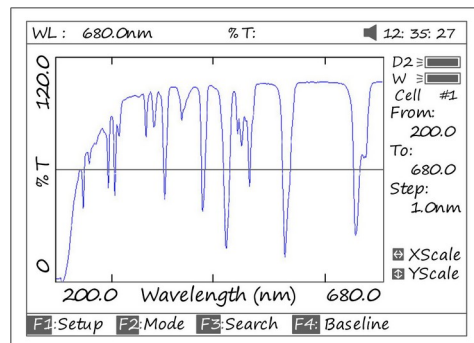

Fig 14
a) The key [ENTER] be pressed, the file selected will be loaded and displays on the screen. Fig 14.
- Press the key [SAVE] in Fig14 to save curve.